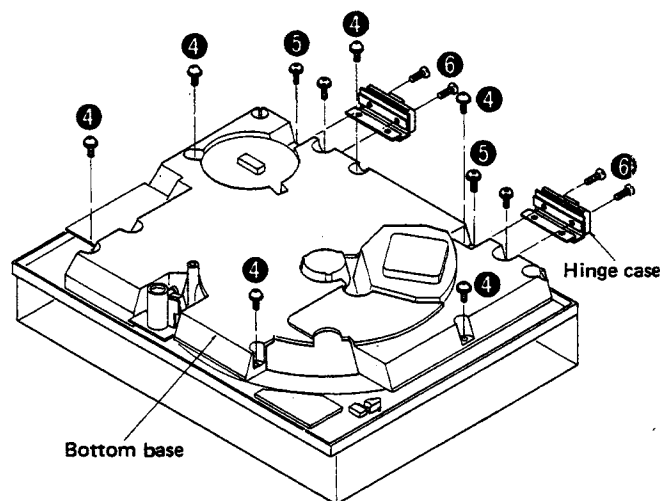

Fig. 2
- 4. Remove the 6 setscrews (Fig. 2 : ④) of the bottom base.
2. Remove the 4 setscrews (Fig. 2 : ⑤) of the hinge case bracket.
3. Remove the 4 setscrews (Fig. 2 : ⑥) of the hinge case.